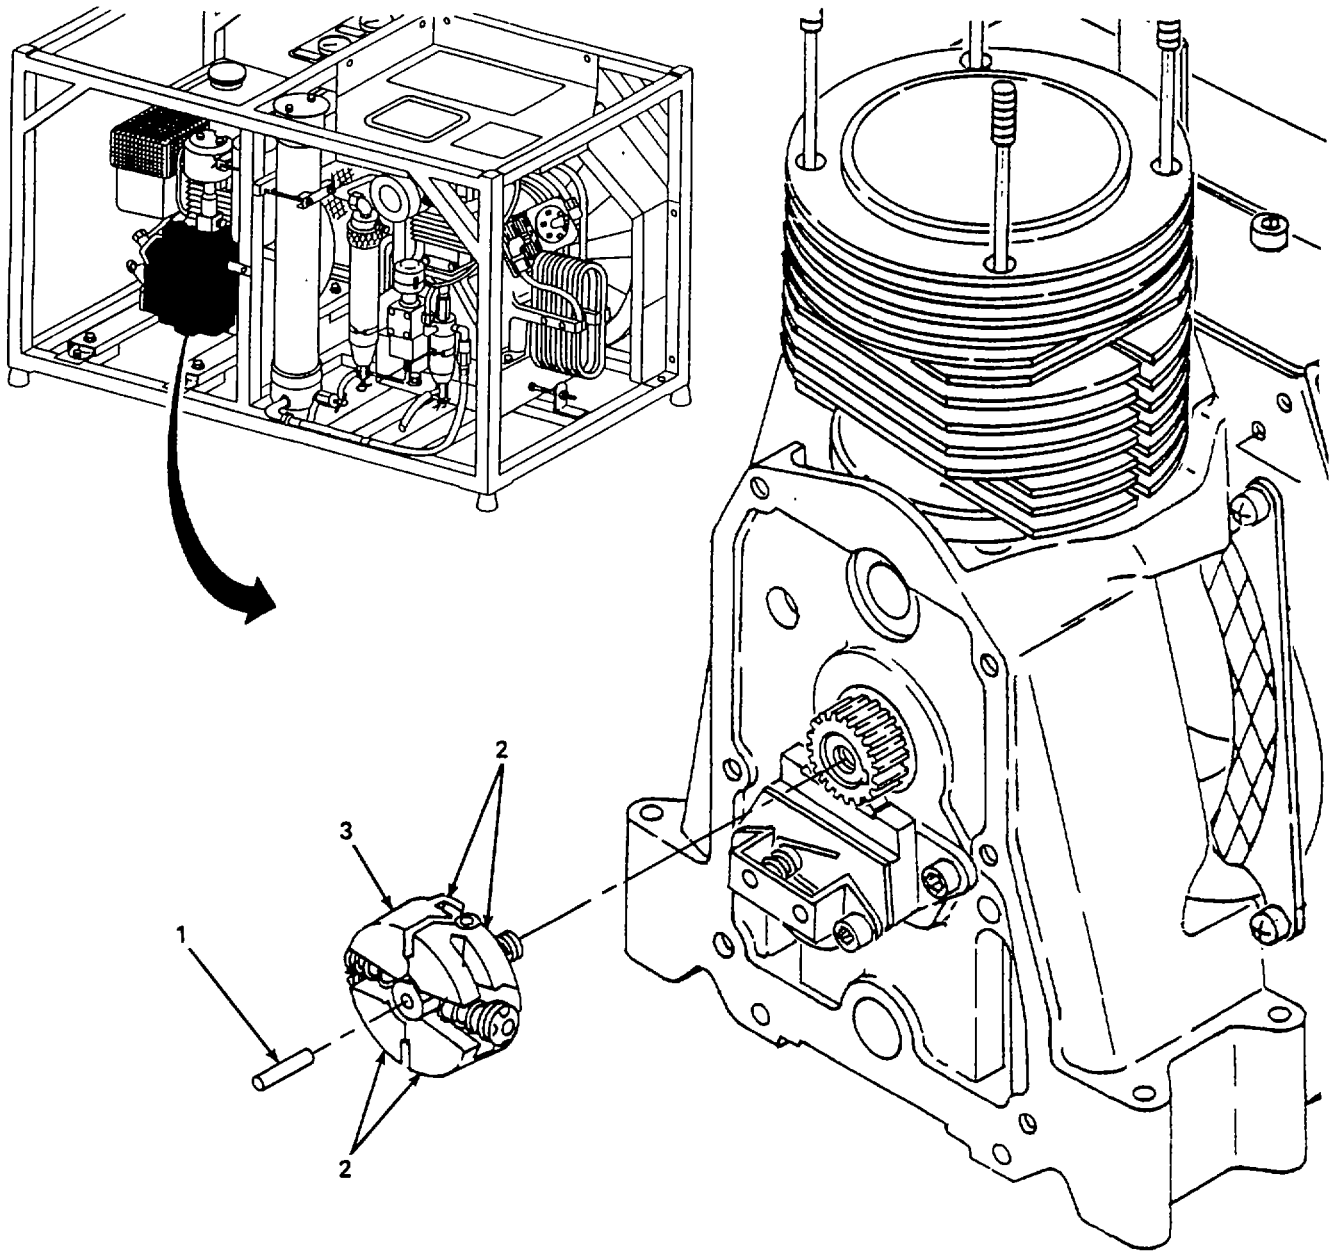

Figure 6-13. Governor Assembly, Replace.
- a. Replace. (figure 6-13)
- (1) Remove governor pin (1).
- (2) Pry apart governor weights (2).
- (3) Unscrew governor (3) and remove.
- (4) Install governor (3), turn counterclockwise to tighten, and torque governor (3) to 25-29 lb-ft (35-40 Nm).
- (5) Install governor pin (1).